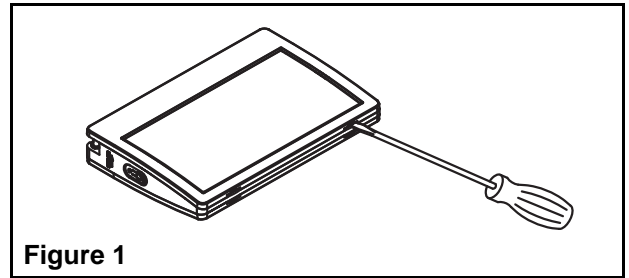

Figure 1
2. Using a flat head screwdriver, insert the blade into the two slots and pry off the front cover (see figure 1).